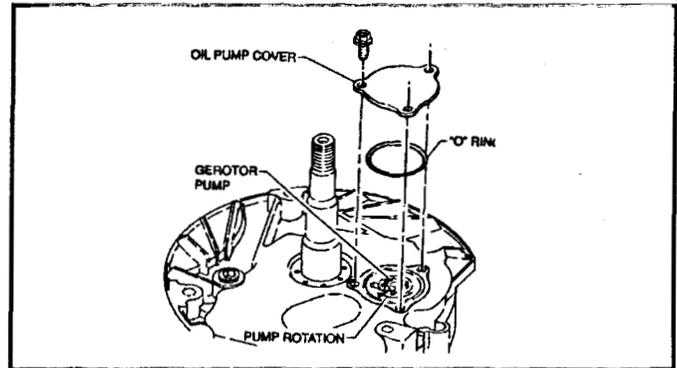

Figure 62
1. Turn the engine over and remove the three 3/8" hex, flange head cap screws that retain the oil pump cover. See Figure 62.